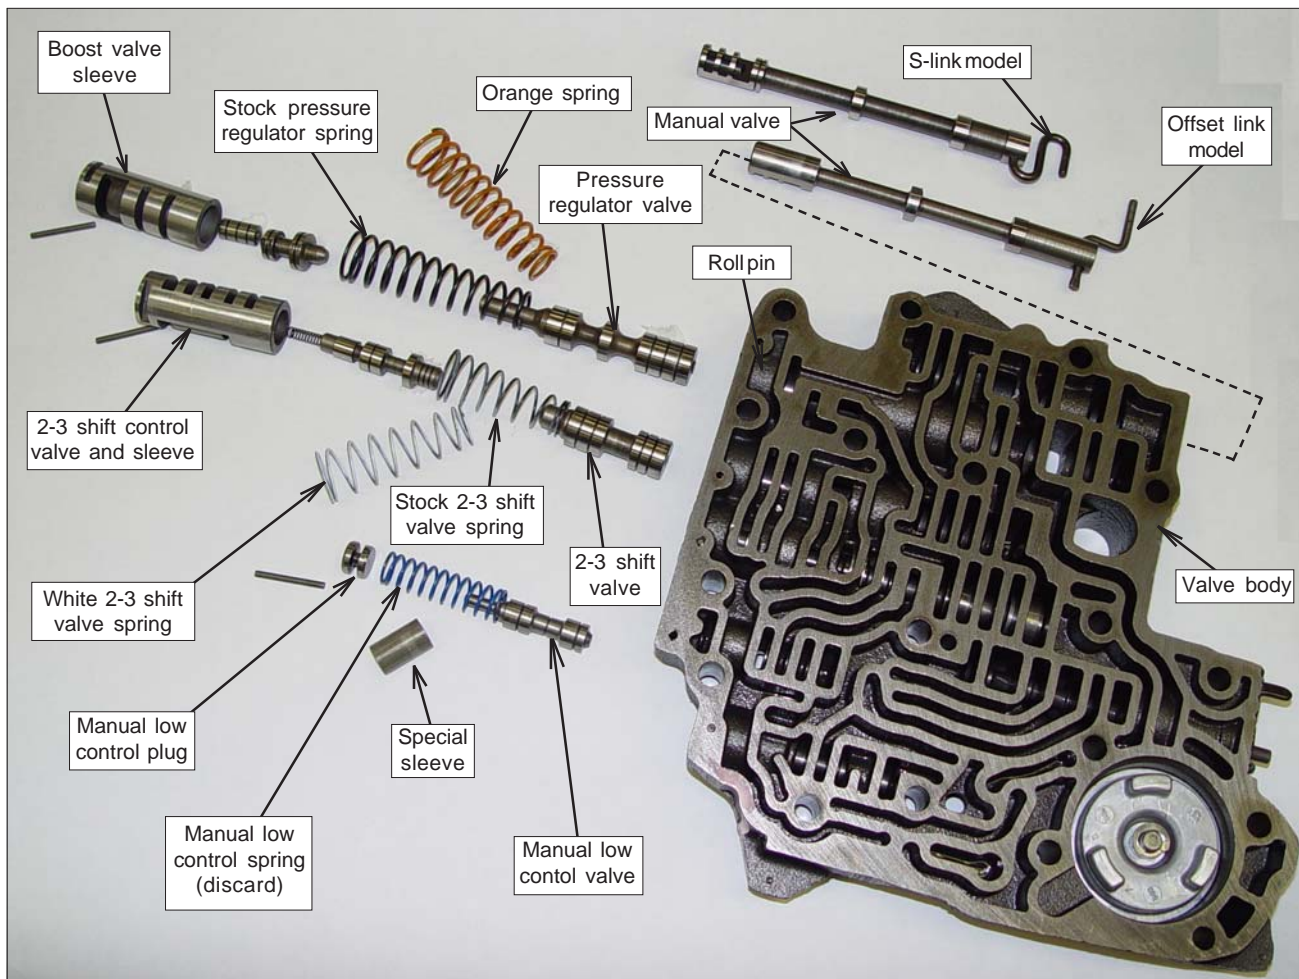
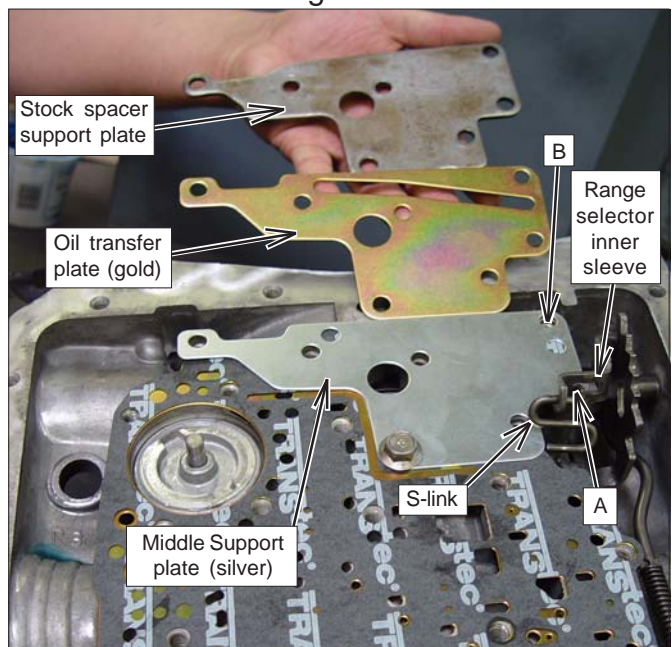

Figure 4
Figure 9
STEP 6. Valve Body: Place the valve body on the bench with the channel side up. (See Fig. 4) Note the roll pin locations. Remove the roll pin holding the 2-3 shift control valve sleeve in place. (To remove the roll pin, push on the end of the sleeve until you notice the pin move slightly. Turn the valve body over and let the pin drop out of the
Install each checkball in place using grease to hold it in position. Do not install remaining checkballs. Install gasket/separator plate assembly in position and use a pan bolt finger tight in the middle to hold the assembly in place. (see Fig. 9)
STEP 14. Install B&M middle support plate (silver color) in position against separator plate gasket at front of transmission. (See Fig. 9). On top of middle support plate (gold color). Note that the two (2) holes in the middle support plate and slot in the oil transfer plate line up with the two holes in the separator plate and plate gasket. On top of oil transfer plate install your stock spacer support plate. (The order of the plates must be correct!). Install the support plate bolts finger tight. Align separator plate bolts with transmission case bolt holes. Holding separator plate in position, tighten the seven (7) support plate bolts to 100 in. lbs.
For "S" link model manual valve only (See Fig. 4): Rotate the range selector inner lever noting clearance with bolt 'A' (See Fig. 9). If range selector inner lever contacts bolt 'A' head or there is not a 1/16" clearance between the two, mark that area of bolt head. Remove bolt & grind or file angle flat at that portion of bolt head. Reinstall bolt & check clearance again. Failure to provide clearance may keep transmission shifter from fully shifting or locking up between drive & 2nd.
STEP 15. Remove center pan bolt. Guide valve body into position. Engage manual valve linkage in selector lever. The "S" link can only be installed one way. Offset linkage must be installed with the link in the forward position. (See Fig. 4). Install valve body bolts finger tight. Install detent roller spring so it engages range selector inner lever. Tighten valve body bolts to 100 in. lbs. Make sure range selector inner lever operates freely at this point with positive indexing in each gear. **"S linkage model"** manual valve only (See Fig. 4): Rotate range selector inner lever all the way forward and check to see that bolt 'B' does not prevent range selector inner lever from going into last detent slot. (See Fig. 9).